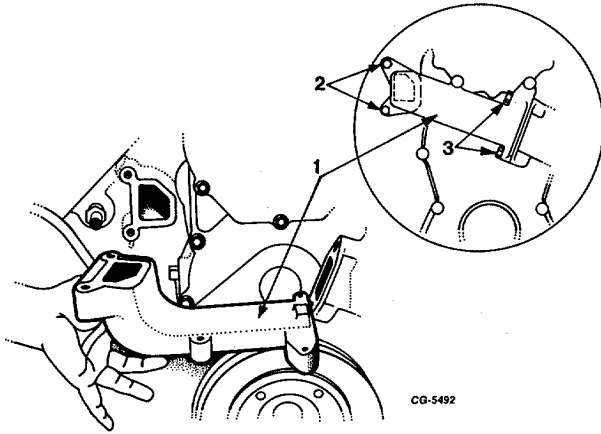

Fig. 27 Removing Water Manifold
20. Remove water pump to crankcase manifold by removing two bolts from manifold to crankcase and two bolts from manifold (Figure 27).